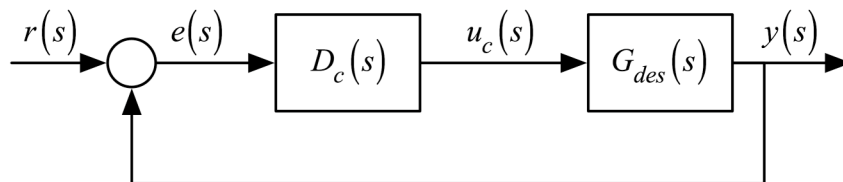
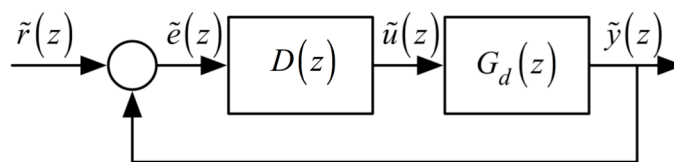

Figure 4
Figure 5
When the discrete-time controller design is to be based on the emulation of a continuous-time controller, the continuous-time feedback system shown in Figure 4 will be used. Design of the discrete-time controller can also be performed using the discrete-time feedback system shown in Figure 5.
Problem 8: (5 points) The model of the plant in the discrete-time system Figure 5 is the step-invariant model of the plant $G(s)$ in (1). Find $G_d(z)$.
The discrete-time plant model in Figure 5 is the step-invariant model:
Problem 9: (5 points) The continuous-time design model $G_{des}(s)$ in Figure 4 includes a representation of the effects of the ZOH. If the ZOH is modeled by a first-order system, what is $G_{des}(s)$?
Problem 10: (5 points) The continuous-time controller in Figure 4 is a PI controller: